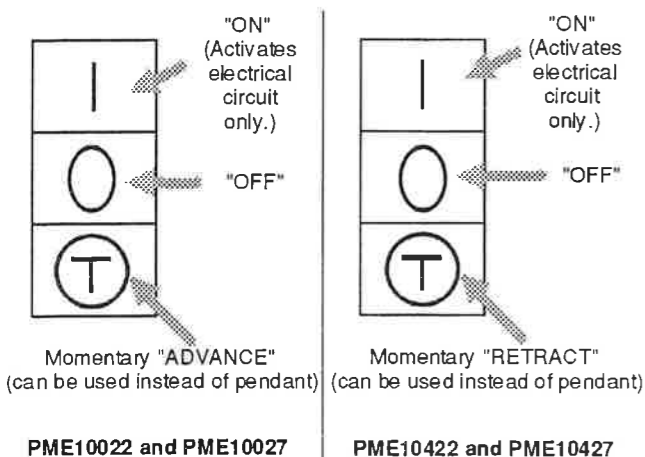

Figure 5 - Pump Switch Positions
4. Be sure the pump switch is "OFF". See Fig. 5.